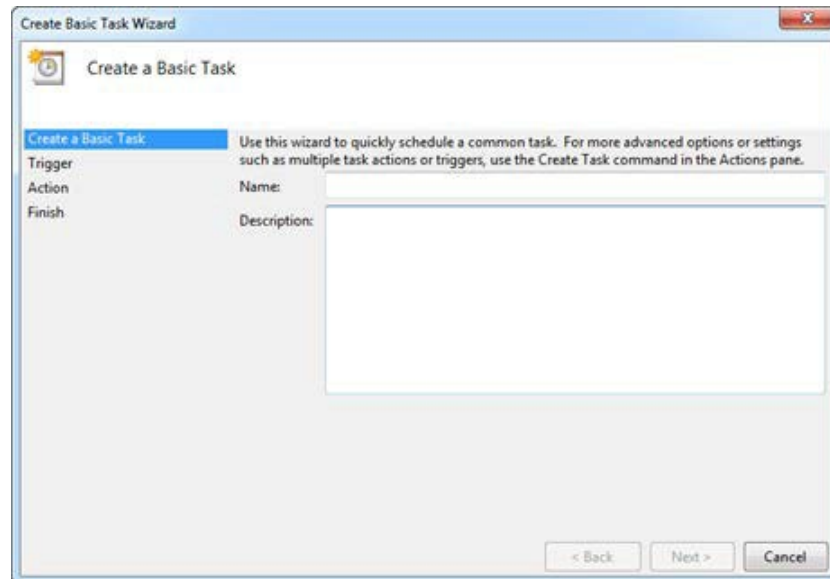

Figure 67. Create Basic Task Window
- 2 Click **Create Basic Task** on the Actions panel on the right side of the Task Scheduler window. The **Create Basic Task Wizard** window opens. See Figure 67.